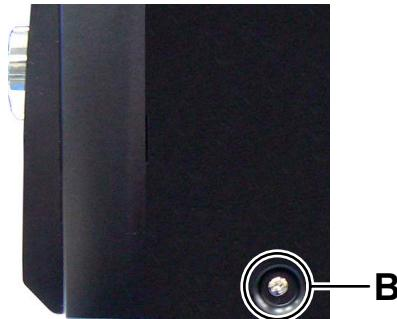

Fig.2
- (2) Remove the two screws **B** attaching the both side of the Metal cover. (See Fig.2)